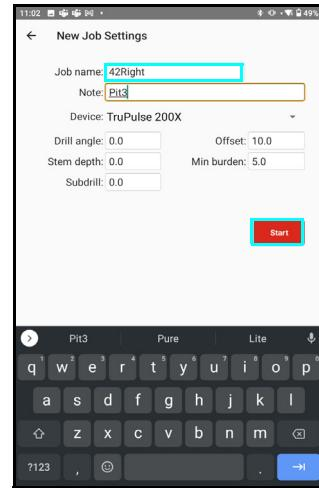

Figure 19
2. Enter the Job Name (Figure 19):